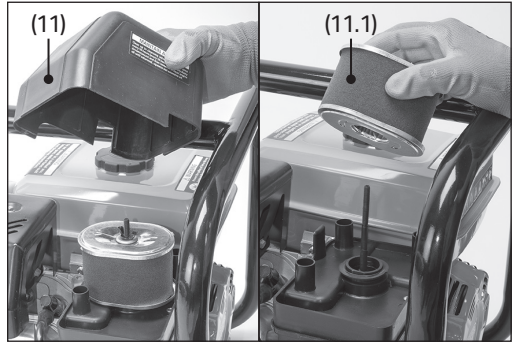

Fig. 17
2. Remove and clean the filter element (11.1) in warm soapy water or a high-flashpoint solvent and allow it to dry completely (Fig. 17).